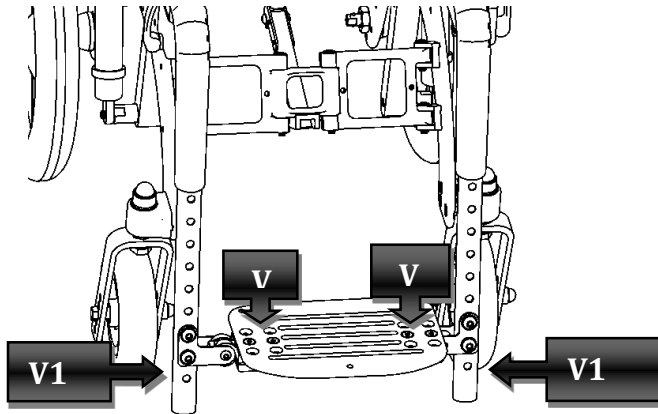

Figure 18
For the single footrest the way to make adjustments is the same. Act on the four screws (V) to guide the angle and depth of the footrest and on four screws (V1) to adjust height as shown in Figure 18.